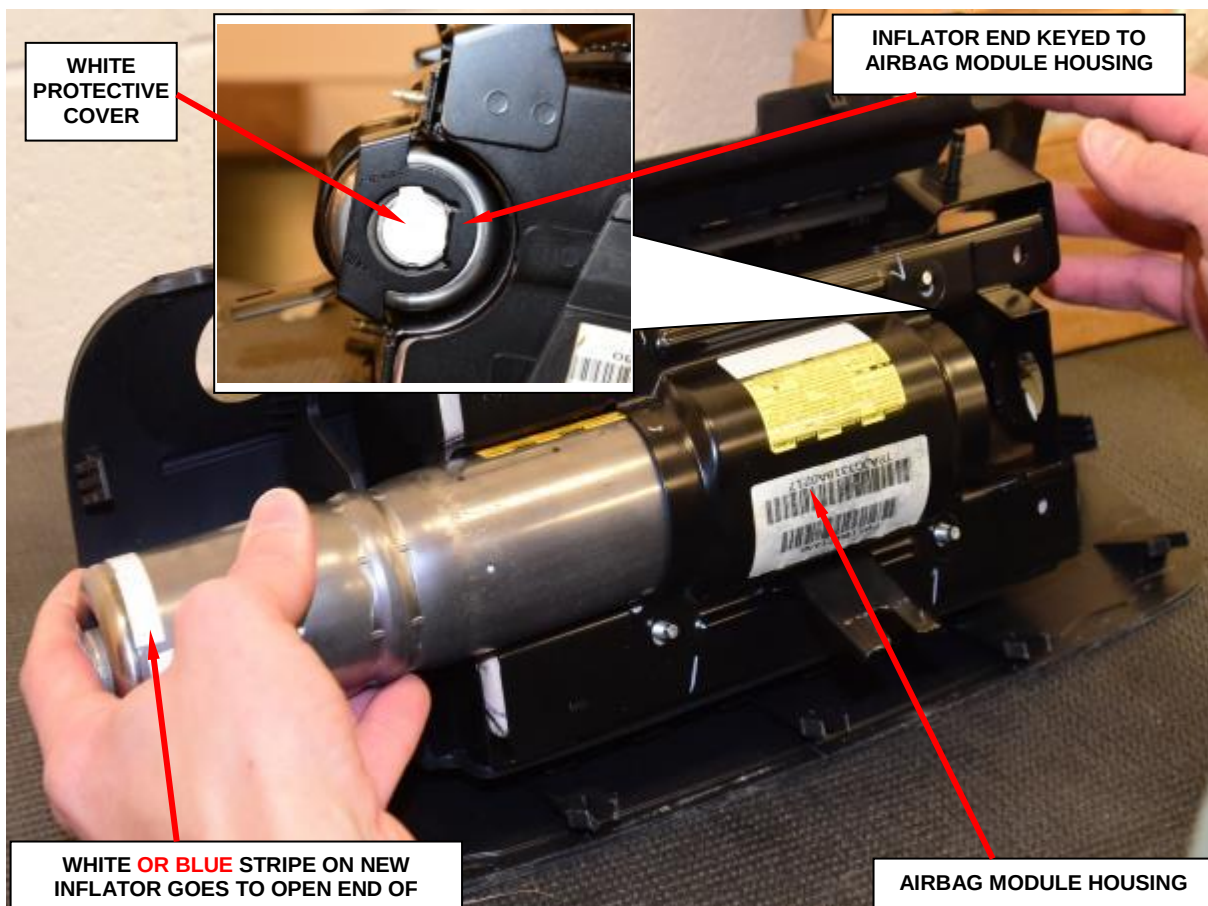

Figure 171 – Inflator Installation
NOTE: The inflator's key MUST line up with the housing's key (Figure 171).
NOTE: The inflator is keyed to fit into the housing. Ensure that when the new inflator is inserted, the keyed end goes in first (Figure 171).
- n. Slide the **NEW** inflator into the passenger airbag module housing. The keyed end is inserted first; therefore, the white stripe on the **NEW** inflator will be located at the open end (Figure 171).